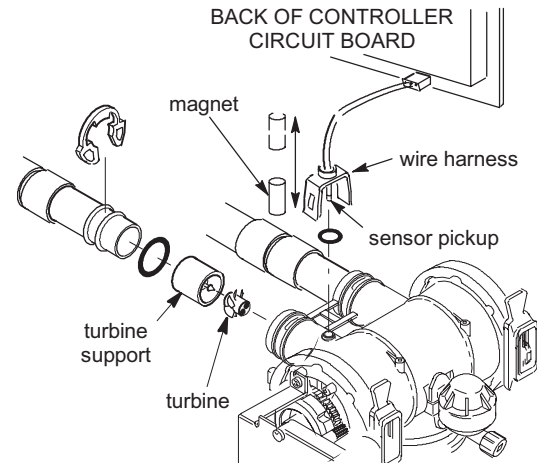

FIG. 159
6. If the display reading does not change with the faucet open, pull the wire harness from the valve outlet port (See Figure 159).